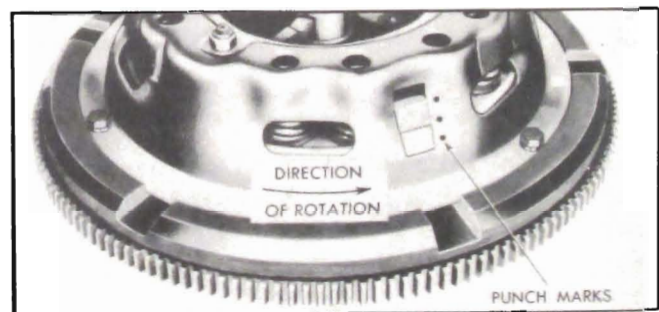

Figure 4-8—Correction of Pressure Plate Rattle—1948 Series 70
2. If clearance is excessive, hold clutch pedal depressed while using a sharp prick punch on *leading* edge of slot in cover for each driving lug. Pedal must be held down to prevent binding clutch in disengaged position. Three prick punch locations per slot are sufficient. Punch marks should be on leading edge as this is the point where wear is less likely to occur. See figure 4-8.